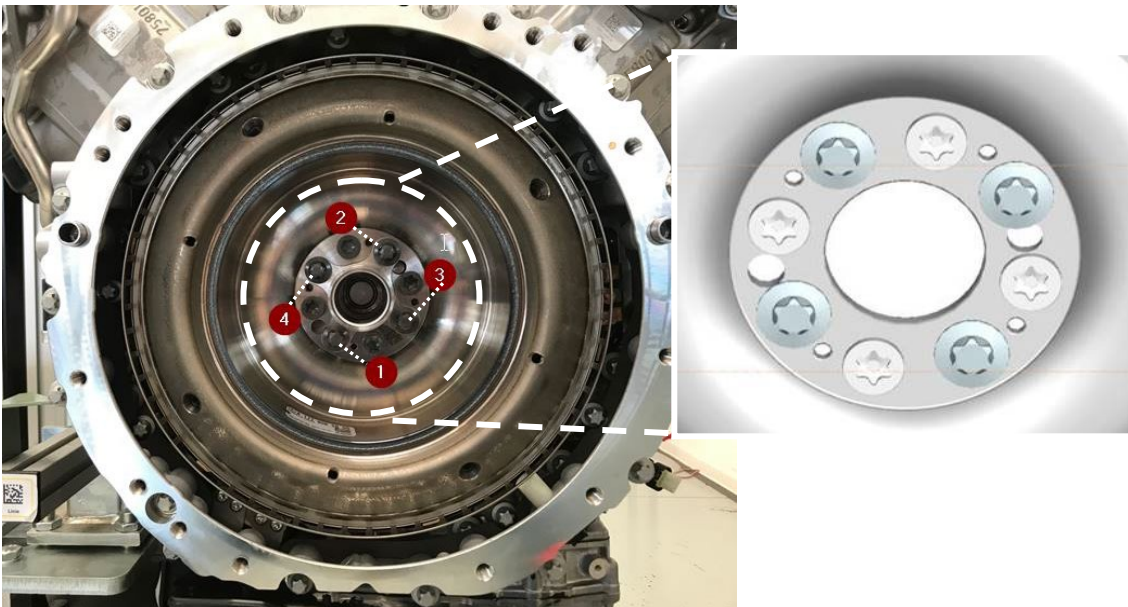

Figure 1
2. Replace **external** Torx bolts (1 to 4, figure 1) for centering flange on integrated starter-alternator.